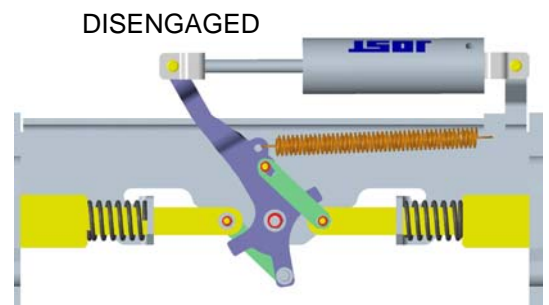

FIGURE 9
3. Disengage the locking plungers as shown in figure 9.